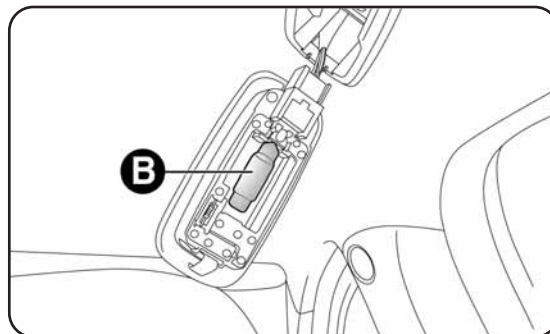

fig. 29
- replace bulb B-fig. 29 releasing it from the side contacts and making sure the new bulb is correctly fastened between the contacts.